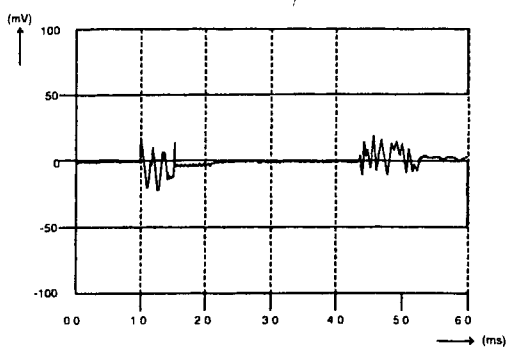

Figure 22C: Final monitor signal, current probe sensitivity set to 50mV/A
4. Compare the measured signal with figure 22c.
Final adjustment must be done with the switch in position 50 mV/A. Refer to figure 22c for the final result.
If the signal can not be optimised confirm figure 22c, then try to optimise the signal by turning the master- or slave delay 'DLY2' potentiometer slightly. Typical peak approx. 60 mV (Sensitivity switch: 50 mV/A)